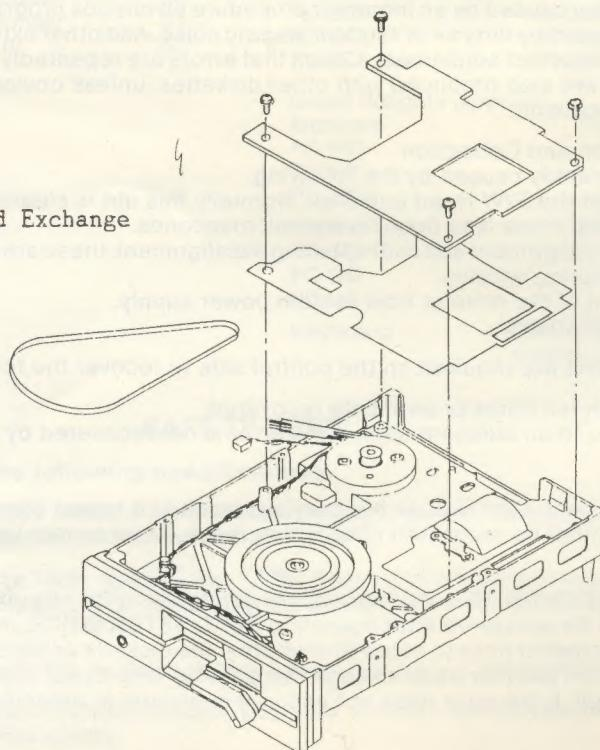

Fig. 4-1 Printed Circuit Board Exchange
4-1 Printed Circuit Board Exchange (See Fig. 4-1)
- a) Remove the drive belt, stretched between the spindle pulley and the DC motor pulley by rotating the spindle pulley as the direction shown in Fig. 4-1. Be careful not to touch the inner surface of the drive belt and the side of the spindle pulley and DC motor pulley.